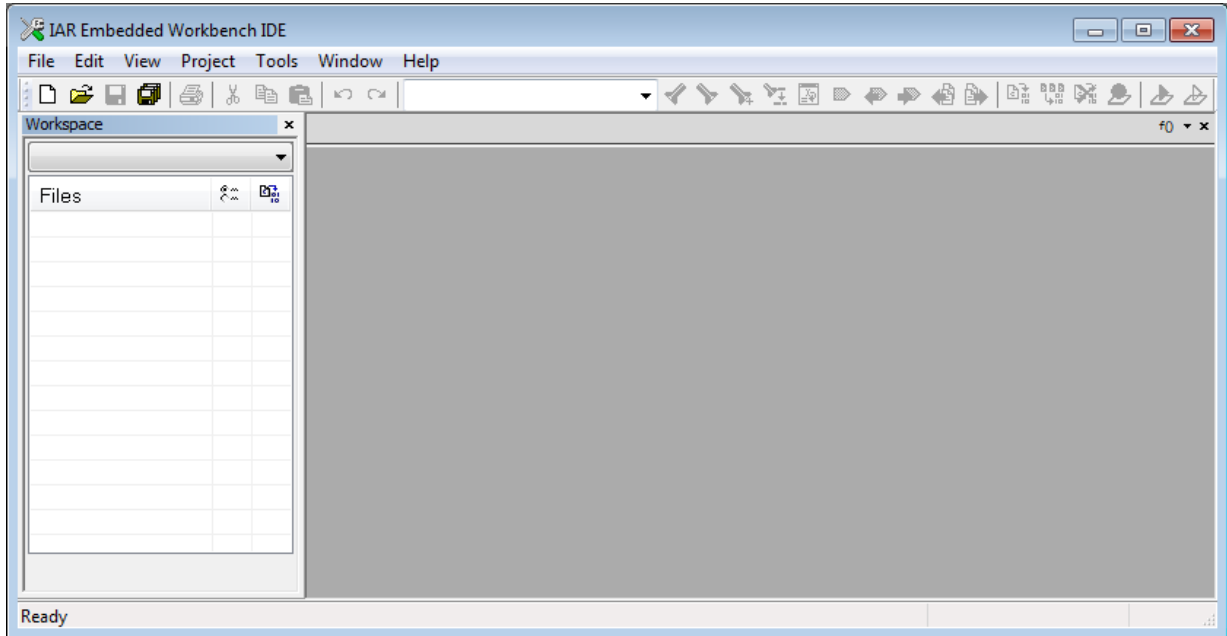

Figure 4: A newly opened »IAR Embedded Workbench« with an empty workspace on the left
The procedure for creating a new workspace and project within will be described step-by-step. Initially the “IAR Embedded Workbench” is opened resulting in an empty window in the center and empty workspace in the left part of the window, Fig. 4.
- Select “Empty project” and click “OK” to get a window “Save As”. Select or create a folder for the newly created project, like “D:\my_projects\project_1”. Under “File name:” type in the name of new project, like “MyFirstProject”, and click “OK”. The skeleton of the new project will be created in the directory specified, and the Workspace window (Fig. 4) will contain the name of the newly created project.